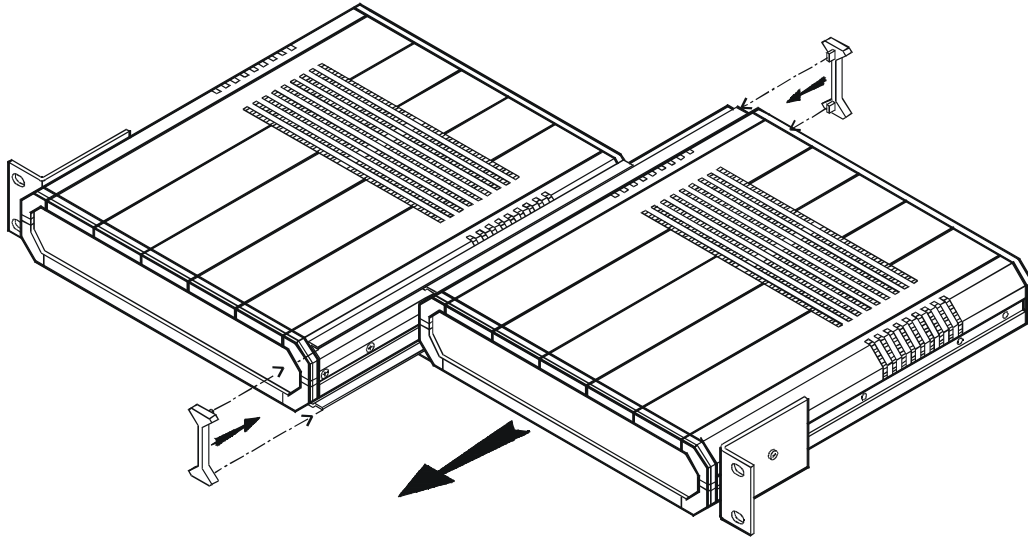

Figure F-3 Installation of Two Units
3. Slide the side rail of one unit into the side rail of the other unit, fastening the two units together (See *Figure F-3*).